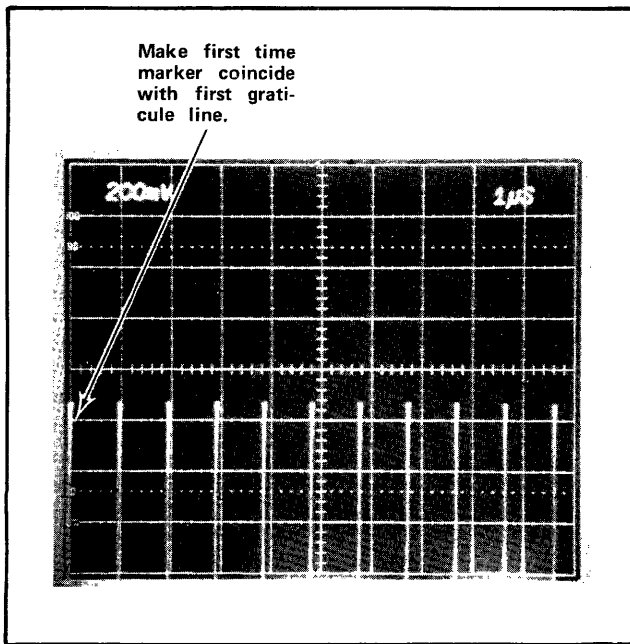

Fig. 1-3. Timing Error of Time Base.
7. Use Horizontal Position control of time base to make first time mark coincide with first graticule line on the oscilloscope. See Fig. 1-3.